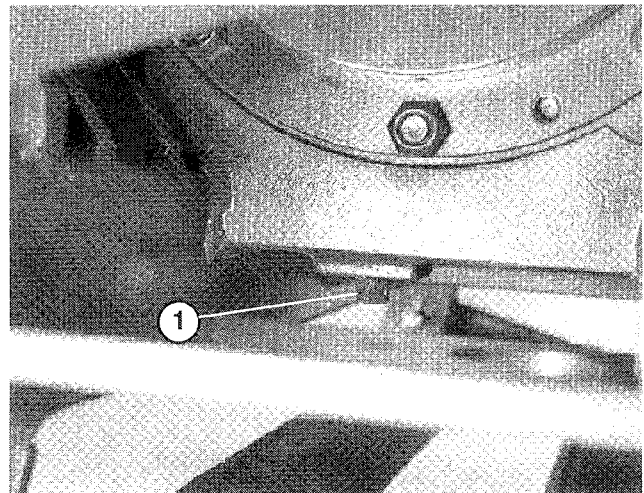

Figure 30
1. Reservoir fill plug (2)
**NOTE:** Under normal conditions the gear case oil level should not drop. If oil level is low, check for signs of leakage and correct, as necessary. Should major failure of gearbox components occur, drain the gear oil, flush the gear cases and install fresh oil. The oil drain plug (Fig.30) is located on bottom of each gear case.